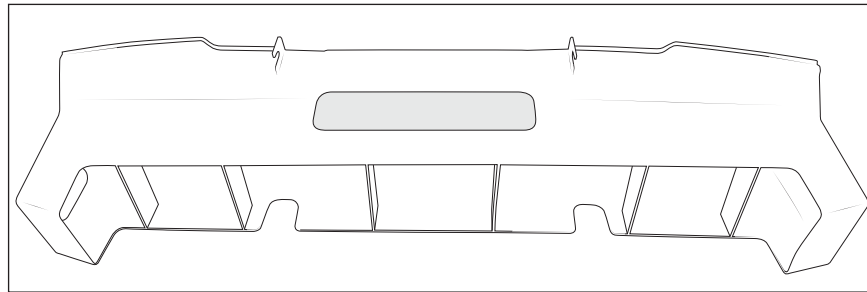

Figure 21
11. Trimming the air diverter (fig. 21).